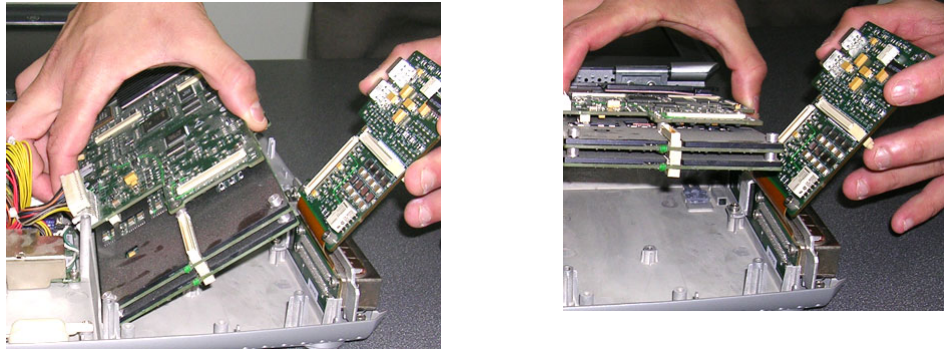

Figure 8-42 Removing the RFI and TR32 Boards from the Bottom Assembly
- 7) Gently lift one side of the P&M Board upwards and hinge it open to gain access to the RFI and TR32 Board assembly beneath, as shown in Figure 8-42 below.
- 8) Lift the RFI and TR32 Board assembly upwards and remove it from the Bottom Assembly, as shown in Figure 8-42 below
- 3) Return the TR32 and RFI Board assembly to the system, placing it in position on the Bottom Assembly. (While performing this step, gently lift one side of the P&M Board upwards and hinge it open in order to insert the TR32 and RFI Board assembly underneath). Refer to Figure 8-41 and Figure 8-42 on page 8-35.